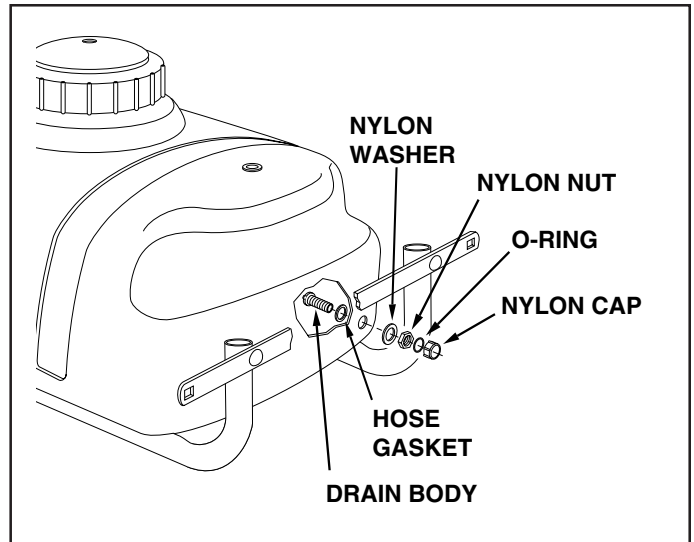

FIGURE 7
11. Install the drain in the rear of the tank as shown in figure 7. Place a 3/4" garden hose gasket onto the drain body and insert the drain body out through the hole in rear of the tank. Outside the tank, assemble the nylon washer and then the nylon nut onto the drain body. Tighten the nut securely enough to prevent leaking, being careful not to damage the plastic parts. Place the O-ring inside the nylon cap and screw the cap onto the end of the drain body.